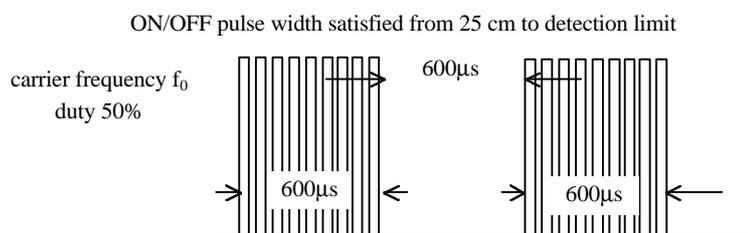

Fig 1. Burst Wave
- (1)Measuring place .....Indoor without extreme reflection of light.
- (2)Ambient light source.. Detecting surface illumination shall be 200±50Lux under ordinary hite fluorescense lamp of no high frequency lighting.
- (3)Standard transmitter ...Burst wave indicated in Fig 1. of standard transmitter shall be arranged to 50mVp-p under the measuring circuit specified in Fig 2.